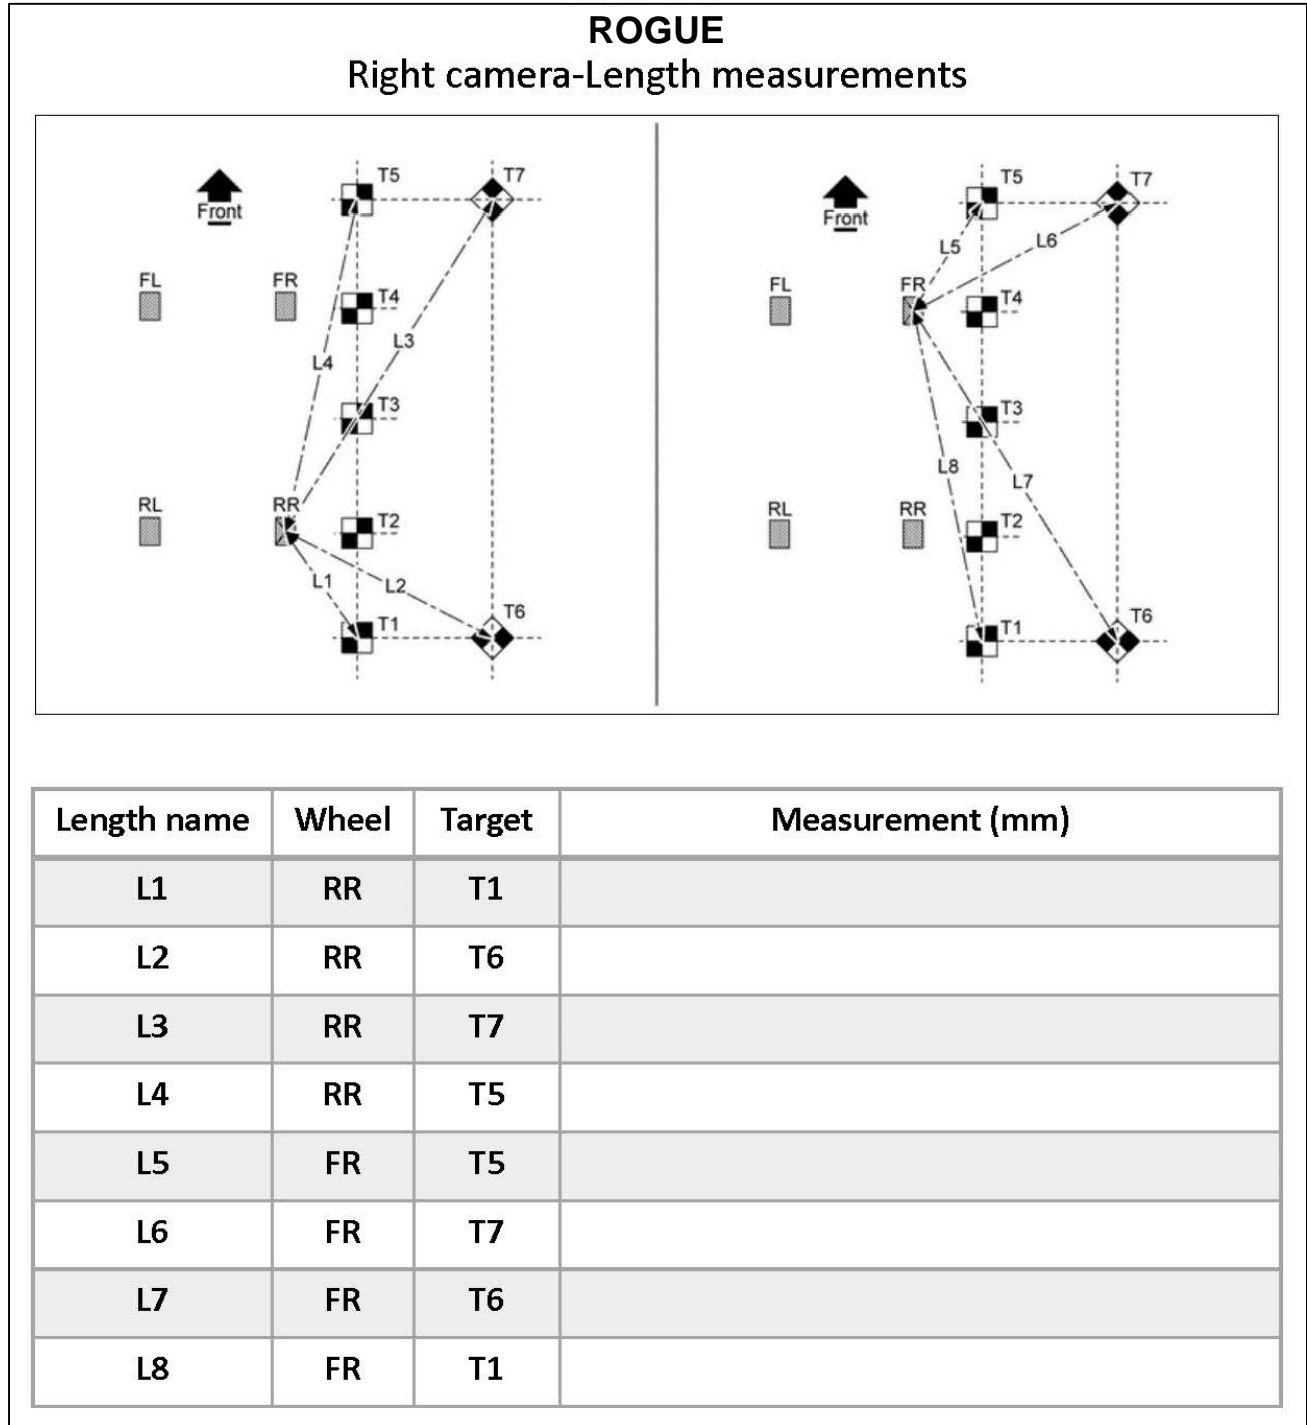

Figure 56
39. Measure the distance between the wheel center point and the center of the calibration targets T1, T6, T7, and T5, as shown in Figure 56 below.
**IMPORTANT:** All measurements must be in millimeters (mm). Refer to the illustrations in Figure 56 to ensure the correct measurement is documented in the correct order and for each calibration target.